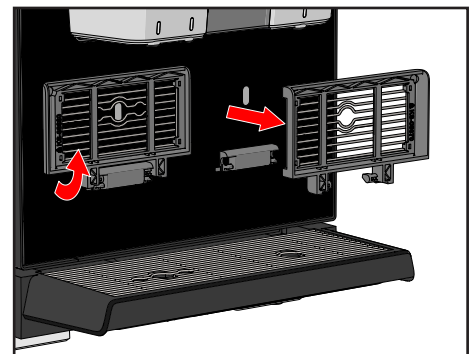

Figure 29.
17. Detach the cuptrays (see Figure 29). Clean with lukewarm water and a brush.